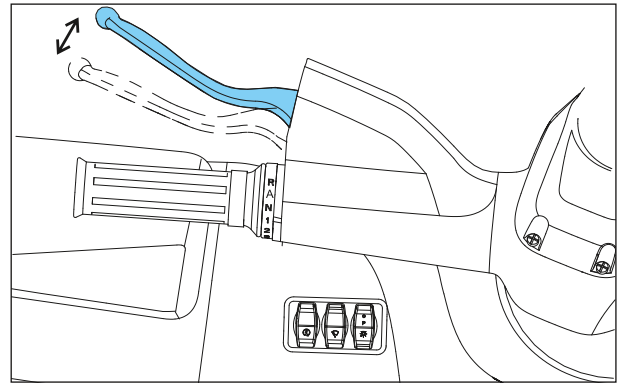

Fig. 2.82
- Ensure that the engine is in cold condition and measure the free play at the clutch lever end from engaged position to before clutch begins to disengage. (Fig. 2.82)
- Check the free play at the lever clutch end.(Fig. 2.82). Shift the gear to 4th in engine off and stand still condition and check the free play at clutch lever. Minimum 5mm free play is required.